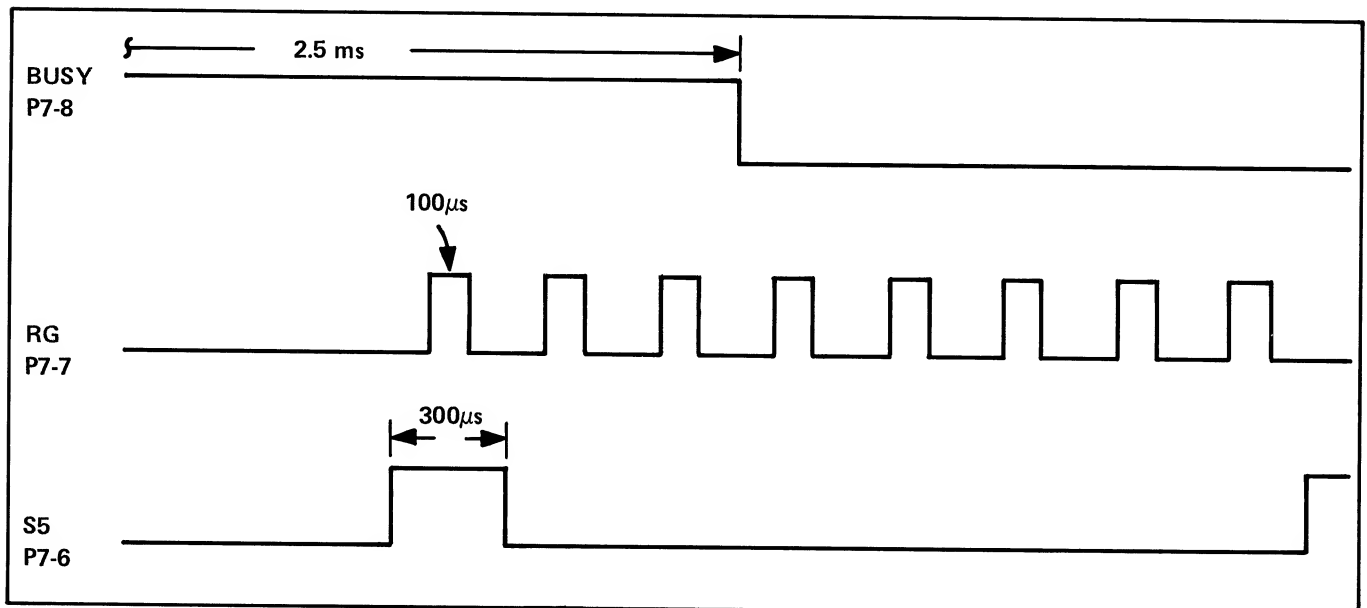

Figure 6-8. DOU TIMING SIGNALS
6-61. The three timing signals used to synchronize the data transfer in the DOU are: the Busy Flag (BZ) input on P7-8, the Register pulses (RG) input on P7-7, and Strobe Five (S5) input on P7-6. Figure 6-8 shows the relationship of these three signals. The BZ signal goes high for 2.5 ms (one series of strobe signals; ST0 through ST7) to indicate that new data has been loaded into the latches within the LSI chip (2100A-U1). The S5 signal that occurs while BZ is high starts the data transfer. The RG pulses then time the sampling of the four bit bcd word(s) applied to the DOU input lines. Refer to the Digital Output Unit schematic in Section 8 when reading the following theory.